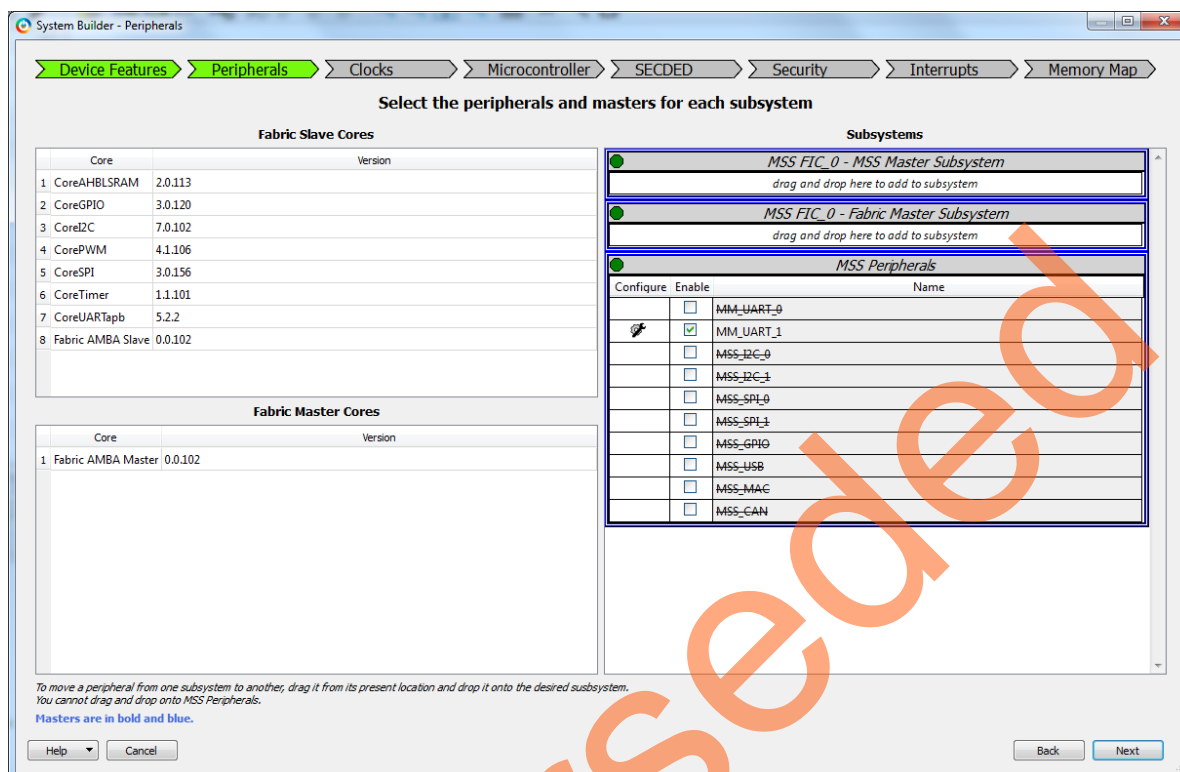

Figure 8 • System Builder - Peripherals Page
9. Click **Next**. This opens **System Builder - Peripherals** page as shown in Figure 8.
10. Disable the following peripherals on the **System Builder - Peripherals** page as shown in Figure 8: